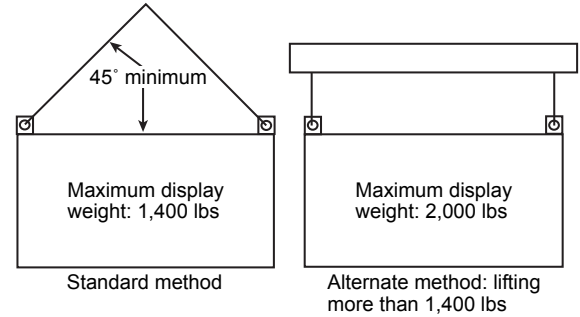
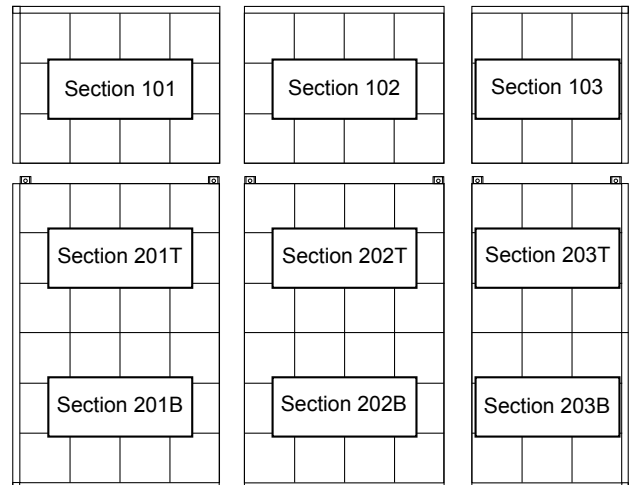

Figure 1: Lifting Method Diagram
Figure 2: Front View
2. Use the lifting lugs on the full-height tubes to lift the sections into place. Refer to **Figure 1 on page 1**. Install the bottom-center section (Section 202 in **Figure 2 on page 1**) first unless otherwise specified.
- For all subsequent sections, install all interconnect hardware in any adjacent sections while still attached to the crane and before permanently attaching to the structure. Refer to **Figure 2 on page 1** for connection details.